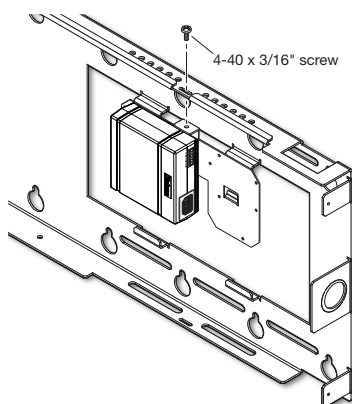

Figure 5. Secure the Mounting Plate to the USFM 100
5. Secure the mounting plate to the USFM 100 with the supplied screw through the top plate tab (see figure 5).